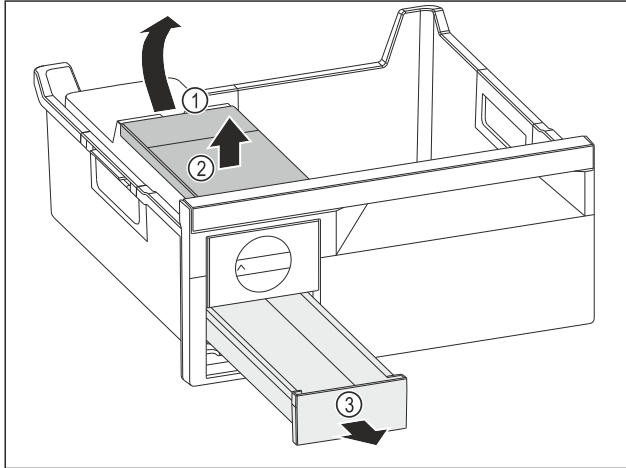

Fig. 76
- Removing the water tank: Lift the water tank by the recess Fig. 76 (1).
- Remove the water tank Fig. 76 (2) upwards.
- Remove the ice cube drawer Fig. 76 (3) to the front.